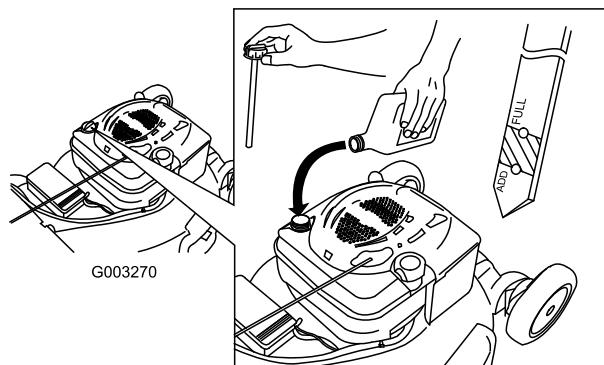

Figure 36
4. Slowly pour oil into the oil fill tube until the oil level reaches the Full line on the dipstick (Figure 36). **Do not overfill.** (Max. fill: 20 oz. (0.59 l), type: SAE 30W detergent oil with an API service classification of SF, SG, SH, SJ, SL, or higher.)